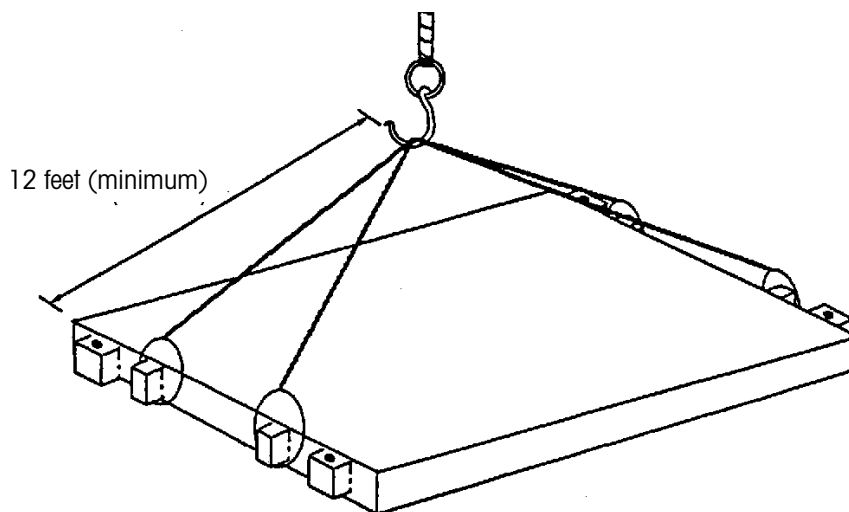
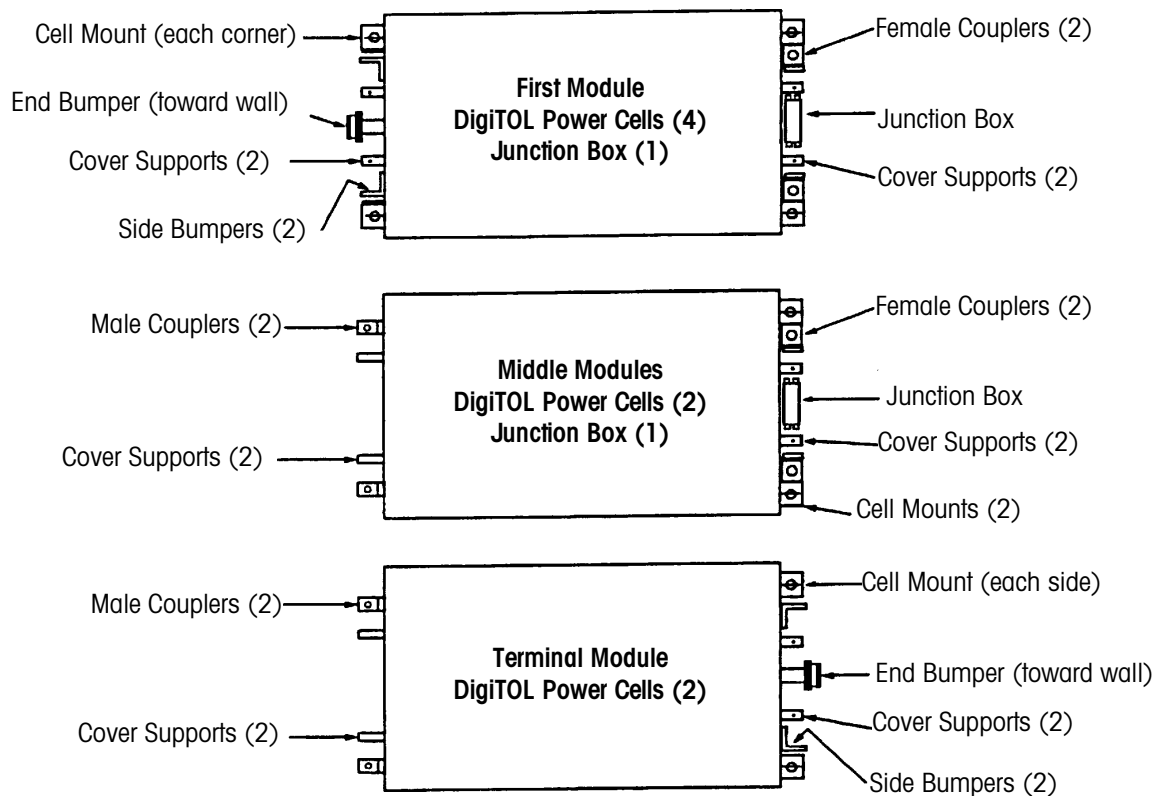

Figure 3-1: 7562 Module Lifting Procedure
Figure 3-2: Types of Modules
If the 7562 truck scale is being delivered by a METTLER TOLEDO truck, unloading will be handled and supervised by the METTLER TOLEDO driver. Unloading a 7562 portable scale will require a separate crane. Otherwise, unload the modules by lifting them as shown in Figure 3-1. Remove the gap and load cell covers before lifting, so that the covers are not damaged. Lift the modules by the gap covers via quadlift chain. Approximate module weights are listed in Table 3-1.
Figure 3-2 shows illustrations of the three types of modules. Make sure that the bottom module is stored off the ground. We recommend placing lengths of 4 x 4 lumber under the module to support it. Place additional 4 x 4's between each pair of modules. Store all other mechanical accessories in a clean, dry area. Store electrical instrumentation and load cells in a clean, dry area. If the modules will be stored for more than one month, the cable connectors should be filled with connector dielectric compound (TN203056).
- a. The First Module to be set in place is the module that requires four DigiTOL POWERCELL load cells (see Figure 3.2). Lift the module as shown in Figure 3-1. Before setting this module in place, make sure that the end bumper assembly and side bumper bolts have been installed. Position the module so that the end with the end bumper and side bumpers faces the approach wall. The first module should be reasonably square with the end wall and spaced away from the end wall as shown in the assembly drawing.